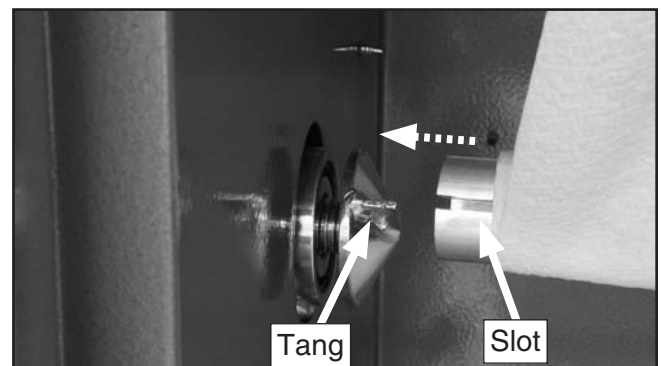

Figure 33. Slot and drive tang alignment.
14. Position the recovery axle onto the spring-loaded spindle cone so that the slot in the axle engages with the drive tang on the spindle cone (**Figure 33**).